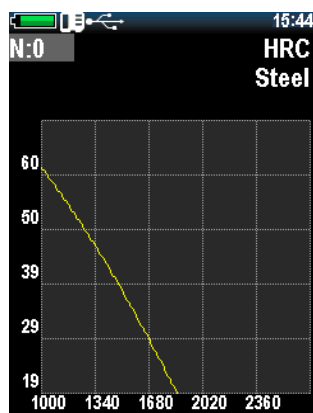

Figure 2.41 - Deleting a user calibration
10. To delete user calibration, go to user calibration mode and set the value “0” for the N parameter (Figure 2.41).